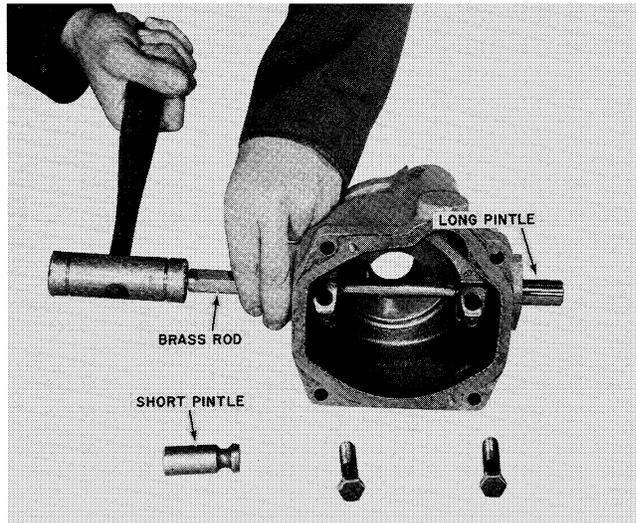

FIGURE 33
23. The long pintle is then easily removed by inserting the brass rod through the hole vacated by the short pintle and tapping it out. See Figure 33.